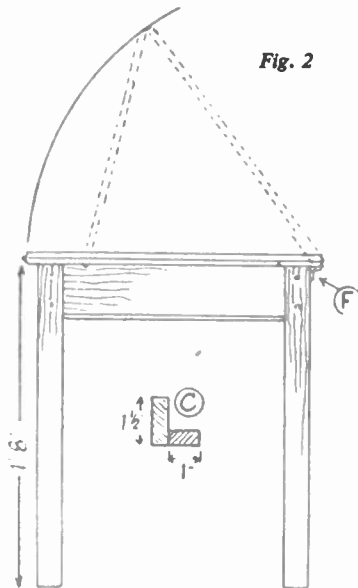

Fig. 2
Fig. 2 shows a side view of the completed table, and reveals, by the dotted outlines, how the table top and drawing board are brought in position. For the legs of the table cut four lengths of $\frac{1}{4}$ in. wood to the length given (or longer, if a
plains this. The whole is then hinged to the box, the hinges being screwed to the legs, not the box, as at (F), in Fig. 2.